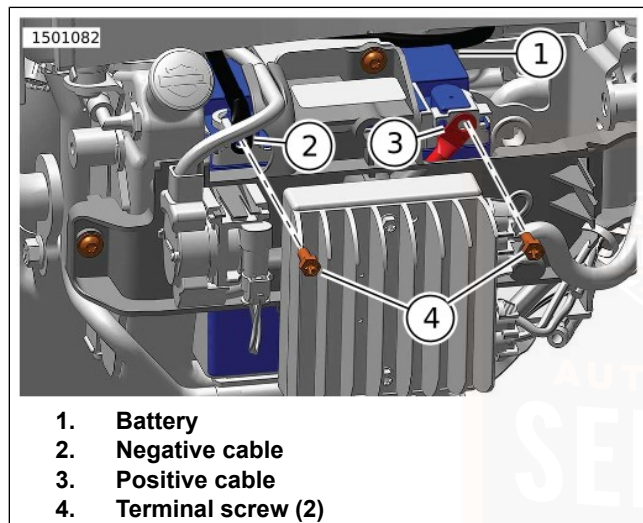
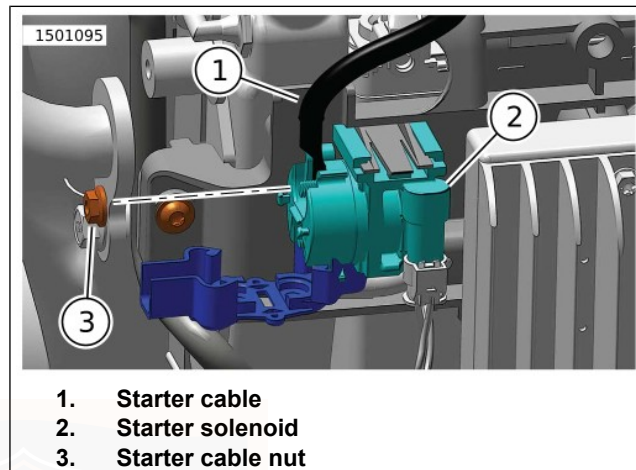

Figure 67. Battery Cables
Figure 68. Starter Cable
2. Figure 67 Remove battery negative cable (2) from battery (1).
3. Remove battery positive cable (3) from battery.
4. Figure 68 Remove starter cable (1) from starter solenoid (2).
4. Figure 67 Install battery positive cable (3) to battery. Tighten.
6. Figure 68 Install starter cable (1) to starter solenoid (2). Tighten.